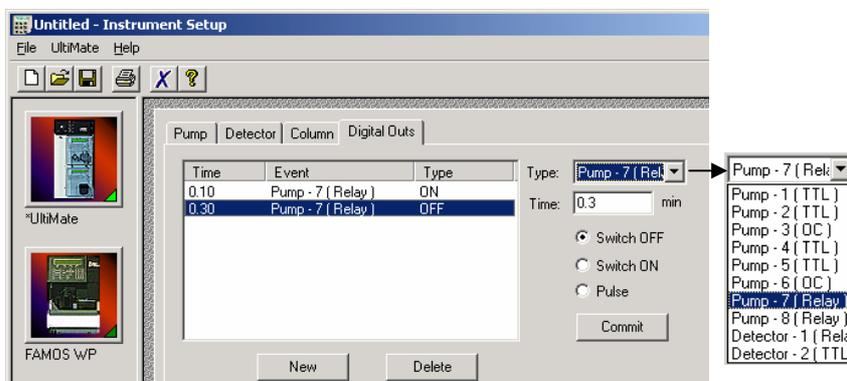

FIGURE 2-30 The Digital Outs Setup Window
- Choose the **Digital Outs** tab in the **Instrument Setup** window to display the digital outputs setup window (FIGURE 2-30).